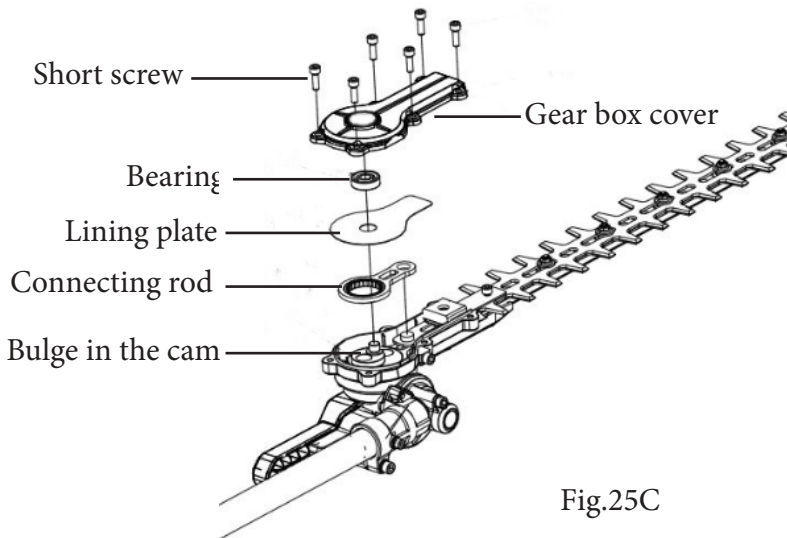

Fig.25C
- e) Align the connecting rod with the rivet in the blade, and install the connecting rod into place. (Fig.25C).
- g) Mount the gear box cover onto the gear case and secure it with 6 short screws (Fig. 25C).